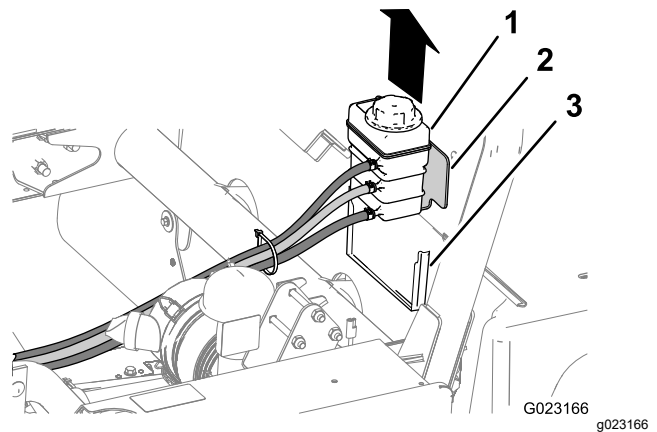

Figure 9
1. Lift the coolant tank up and out of the support bracket on the back of the ROPS shield (Figure 9).